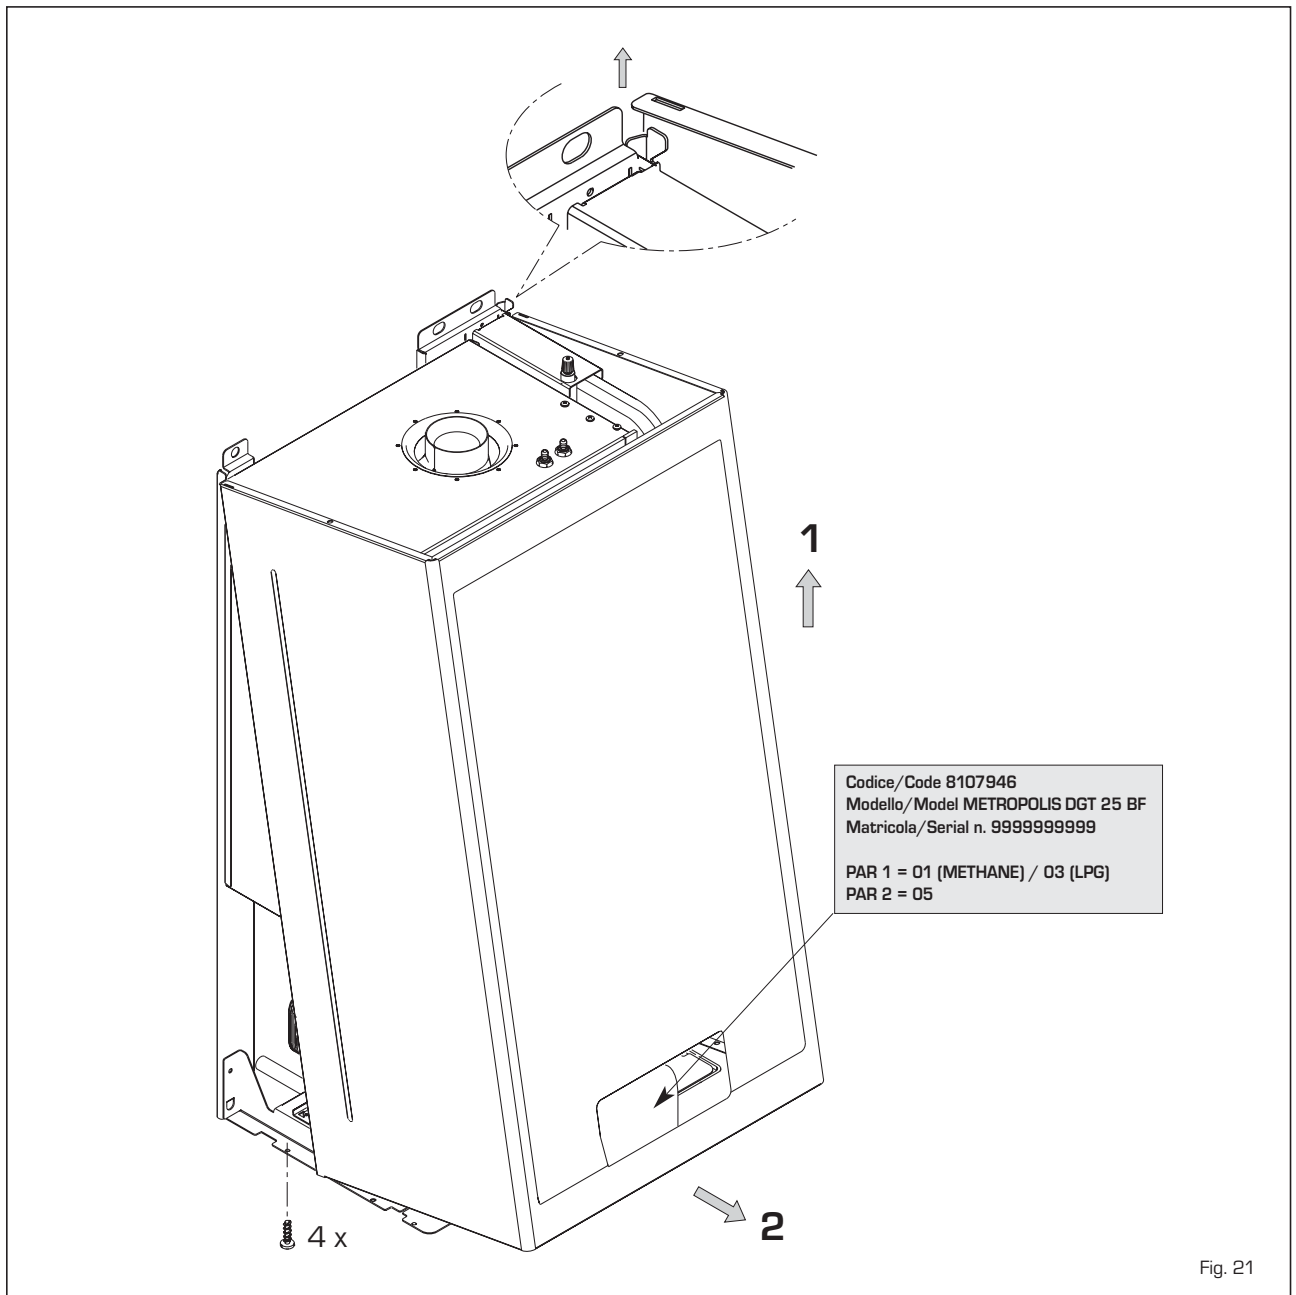

Fig. 21
4.3 DISMANTLING THE CASING (fig. 21)
The casing may be removed completely to facilitate boiler maintenance, as shown in fig. 21.